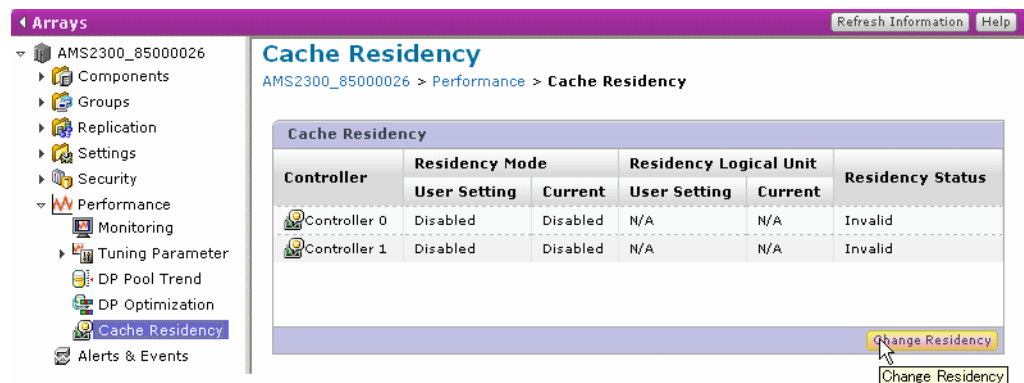

Figure 6-2: Cache Residency dialog box
5. Click **Cache Residency** from the Performance option in the tree view. The Cache Residency dialog box displays as shown in Figure 6-2.